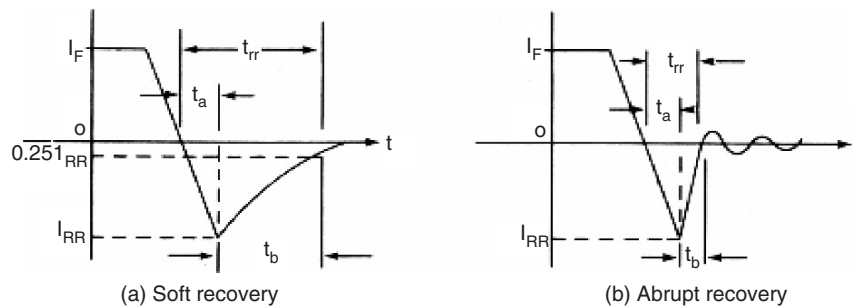

FIGURE 2.3 Diode reverse recovery with various softness factors.
- **Reverse recovery time t_{rr}** is the time interval between the application of reverse voltage and the reverse current dropped to a particular value as shown in Fig. 2.3. Parameter t_a is the interval between the zero crossing of the diode current to when it becomes I_{RR} . On the other hand, t_b is the time interval from the maximum reverse recovery current to approximately 0.25 of I_{RR} . The ratio of the two parameters t_a and t_b is known as the softness factor (SF). Diodes with abrupt recovery characteristics are used for high frequency switching.